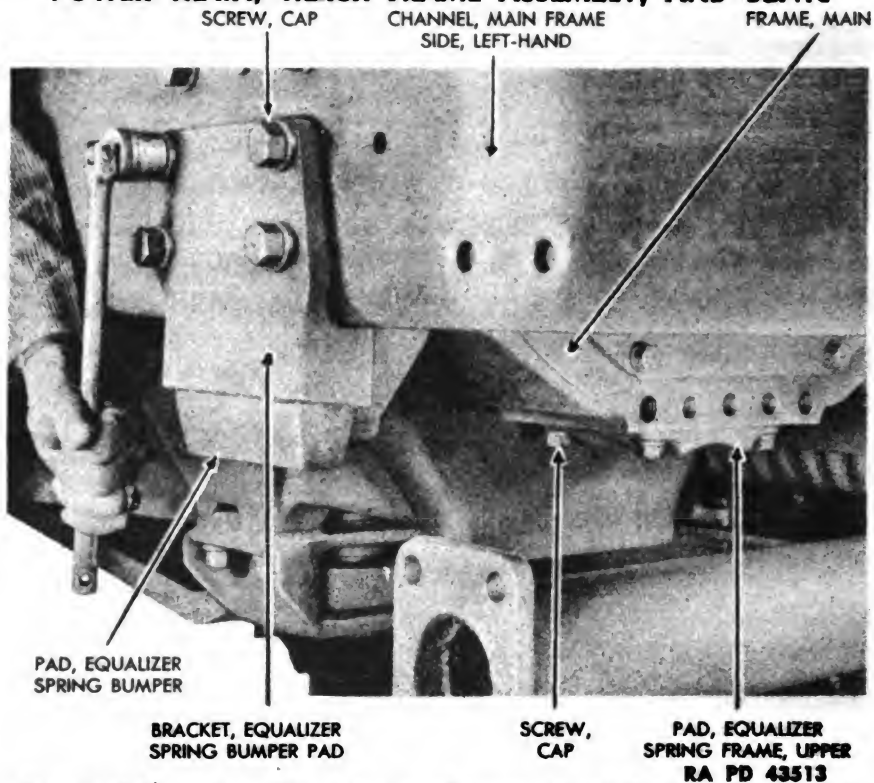

Figure 136 — Equalizer Spring Bumper Pad Bracket Removal
(5) REMOVE EQUALIZER SPRING BUMPER PAD BRACKETS (fig. 136).**SCREWDRIVER****WRENCH, socket, 1½-in.**
(6) REMOVE UPPER EQUALIZER SPRING FRAME PAD (fig. 136).
(1) INSTALL UPPER EQUALIZER SPRING FRAME PAD (fig. 136).
(2) INSTALL EQUALIZER SPRING BUMPER PAD BRACKETS (fig. 136).